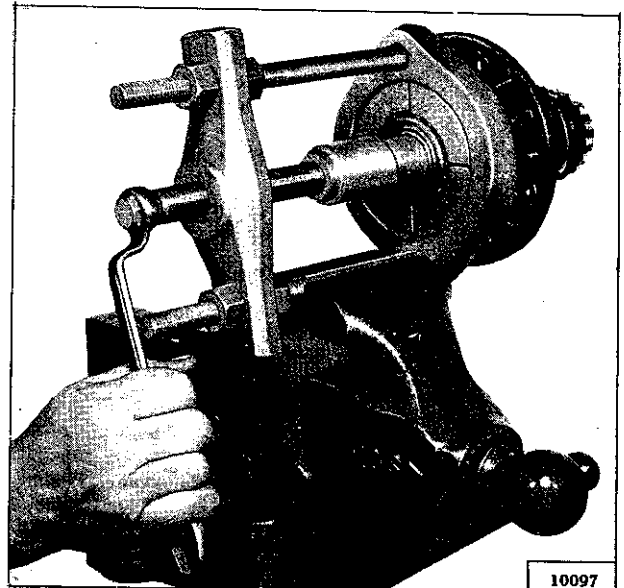
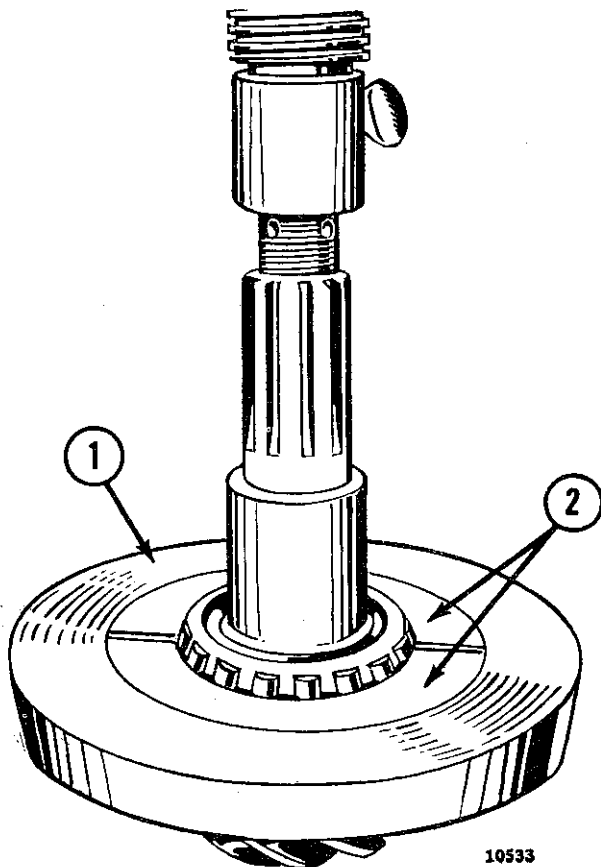

FIG. 255—BEARING PULLER
FIG. 266—REMOVING PINION BEARING
To remove the bearing from an axle shaft use combination bearing puller, Tool No. W-104-A shown in Fig. 255.
e. If the differential carrier bearings are to be removed, use bearing puller W-104-A as shown in Fig. 255 or pullers DD-914-8 and DD-914-62 as shown in Fig. 266.